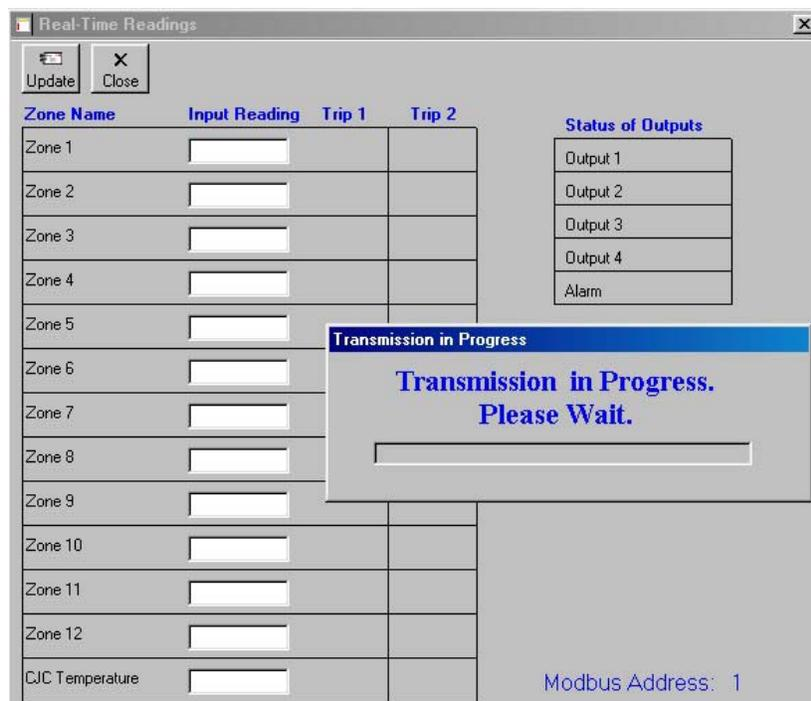

Figure 10
1. Click Functions → Real Time Readings. A new window will appear that will show the current readings that the CX224 is monitoring (Figure 10).